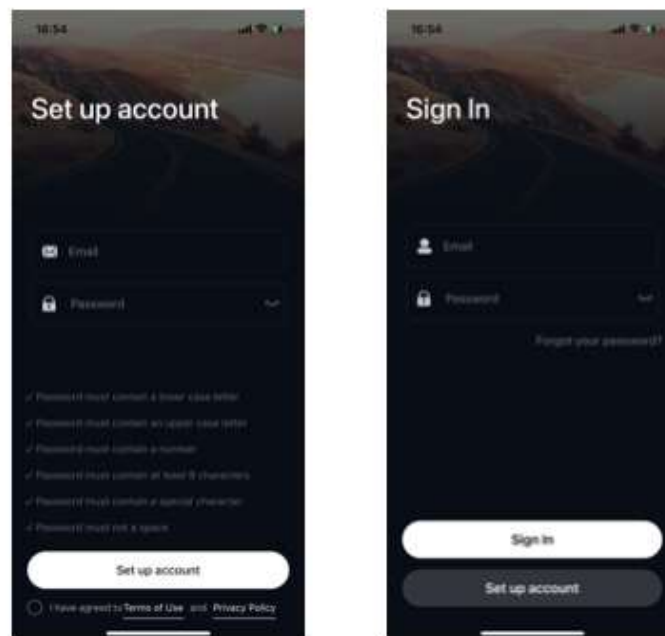

**Figure 3**
1. On the log in screen of the MegaRing+ APP, there is a Registration Link for you to create a secure login (see **Figure 3**)
The account registration login screens are shown in **Figure 3**.